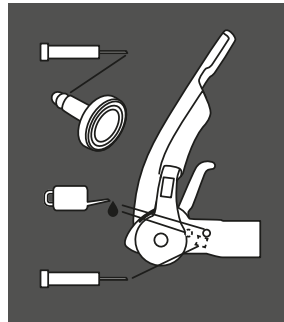

Figure 21
- b. Areas may only be covered with a thin film of grease (Fig 21).